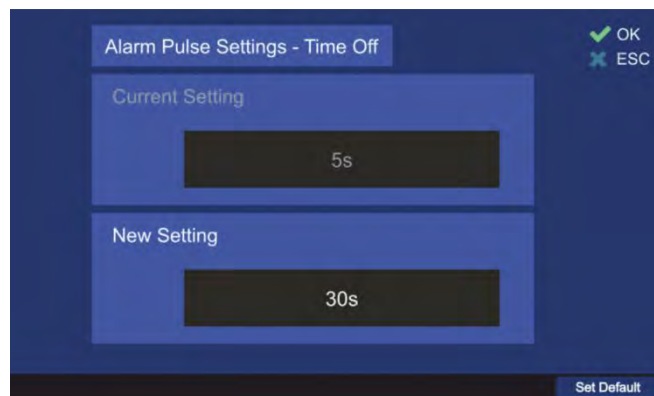

Figure 92. Time off Dialog
- o To change the "Time Off"- time, press the hotkey "Edit Value" (s. Figure 89, **5**). The related dialog will open (s. Figure 92).